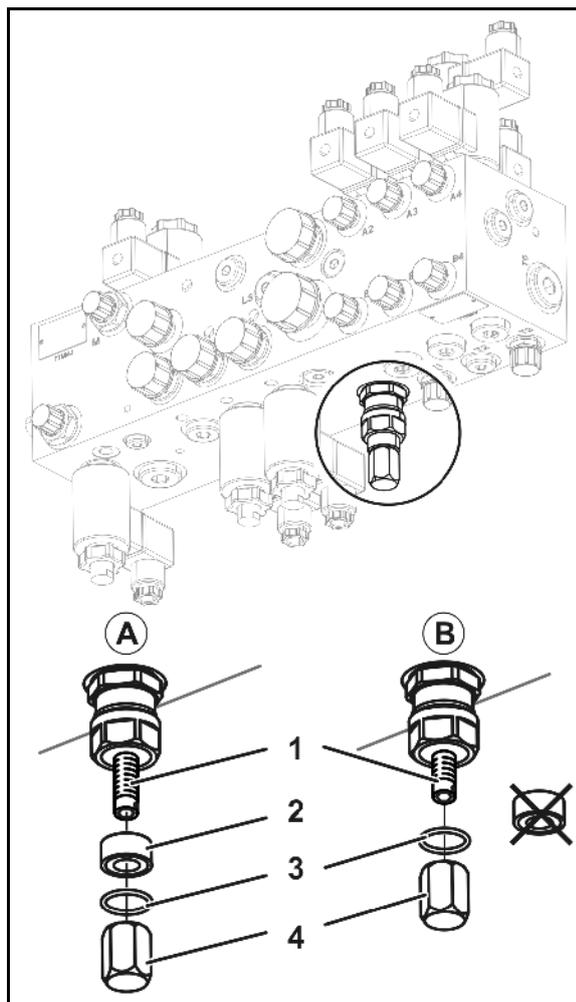

Fig. 49
- use the distance bush (Fig. 49/A)